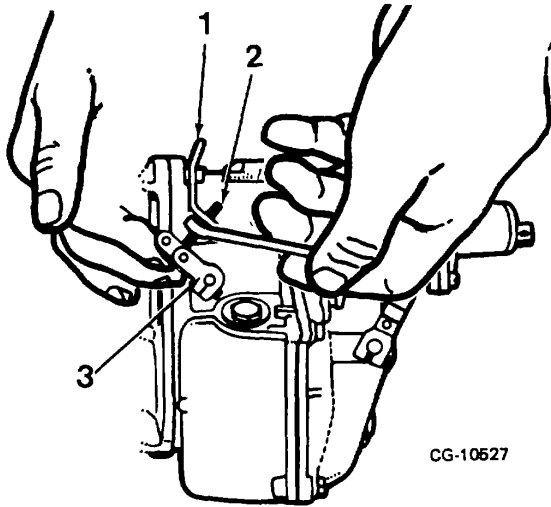

Figure 11. Adjusting External Stop Bracket
27. This adjustment is made to protect pump internal stop and rack from damage. Adjustment is made by loosening stop bracket against which shutoff lever will strike (Figure 11). Operate shutoff lever to rear and hold in this position (rack against internal stop). Reposition external stop lever bracket so that shutoff lever will contact bracket stop screw just before rack would be stopped by the internal stop. Rack setting (dial indicator reading) with rack against external stop should be between 1.5 2.0 mm (.059 .079").